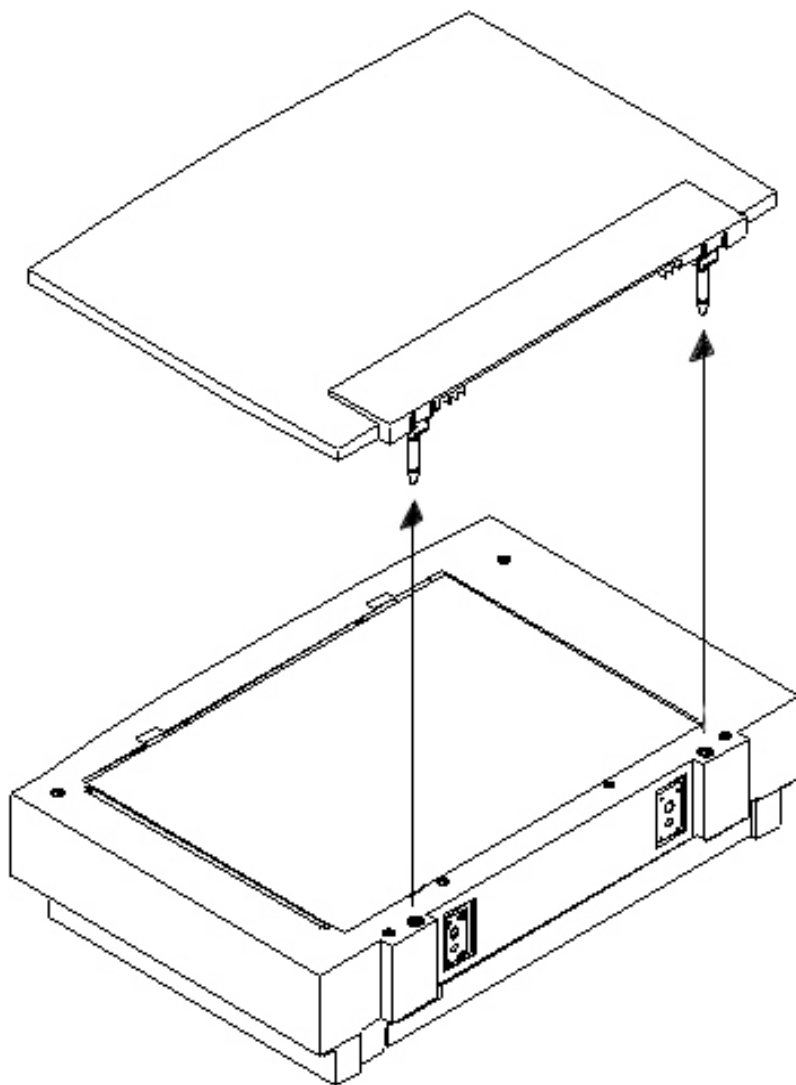

Figure 4-2. Document Cover Unit Removal
1. Remove the document cover (See Figure 4.2).